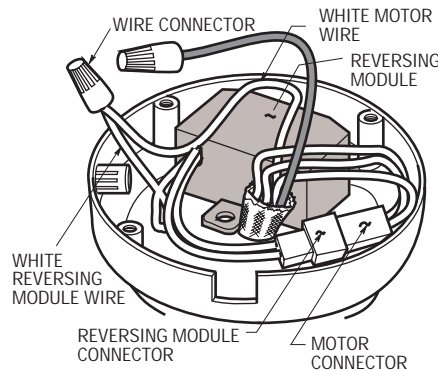

Figure 6
**9.** Position the reversing module (supplied) in the switch cup; connect the reversing module connector to the motor connector (Figure 6). The connectors are color-coded and keyed and can be connected in only one manner.
**10.** Using a wire connector (supplied), connect the white wire from the motor to the reversing module white wire (Figure 6).